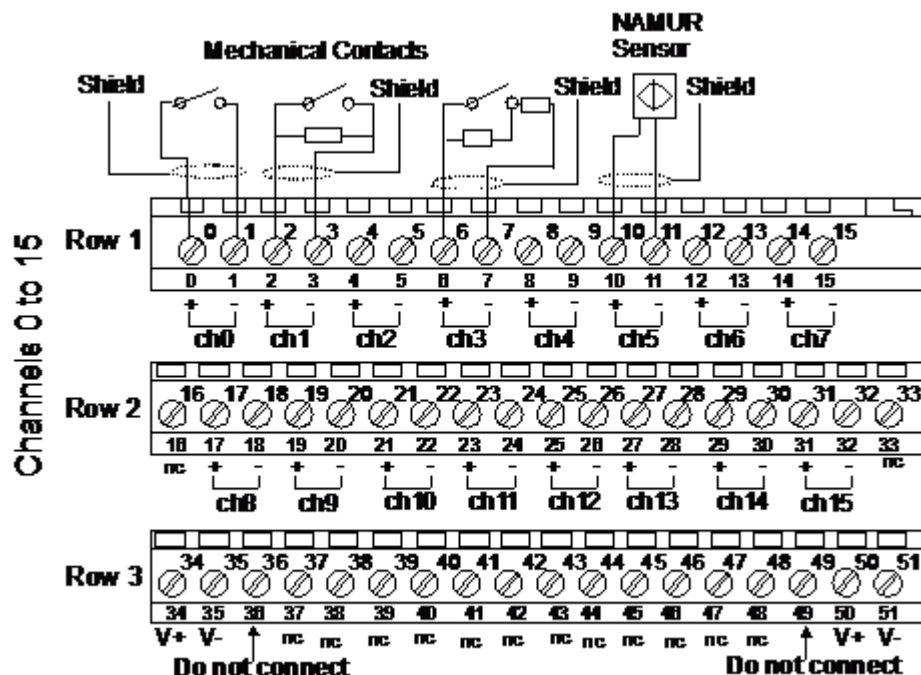

Figure 13: Typical Digital Input module connections.
- Observing polarity, connect the leads from a NAMUR sensor or mechanical contact to the + and - terminals for channels 0 to 15. The connection scheme is input source to the + terminal, input signal to the - terminal. Refer to Figure 13 for typical input connections.
Do **not** use the unused terminals (37, 38, 39, 46, 47, 48) on this Terminal Base unit with a Digital Input module. Using these terminals for any purpose can result in damage to the module and/or unintended operation of your system. (Figure 13).
Do not use the unused terminals on this Terminal Base unit with a Temperature Input module. Using these terminals for any purpose can result in damage to the module and/or unintended operation of your system. (Figure 13).